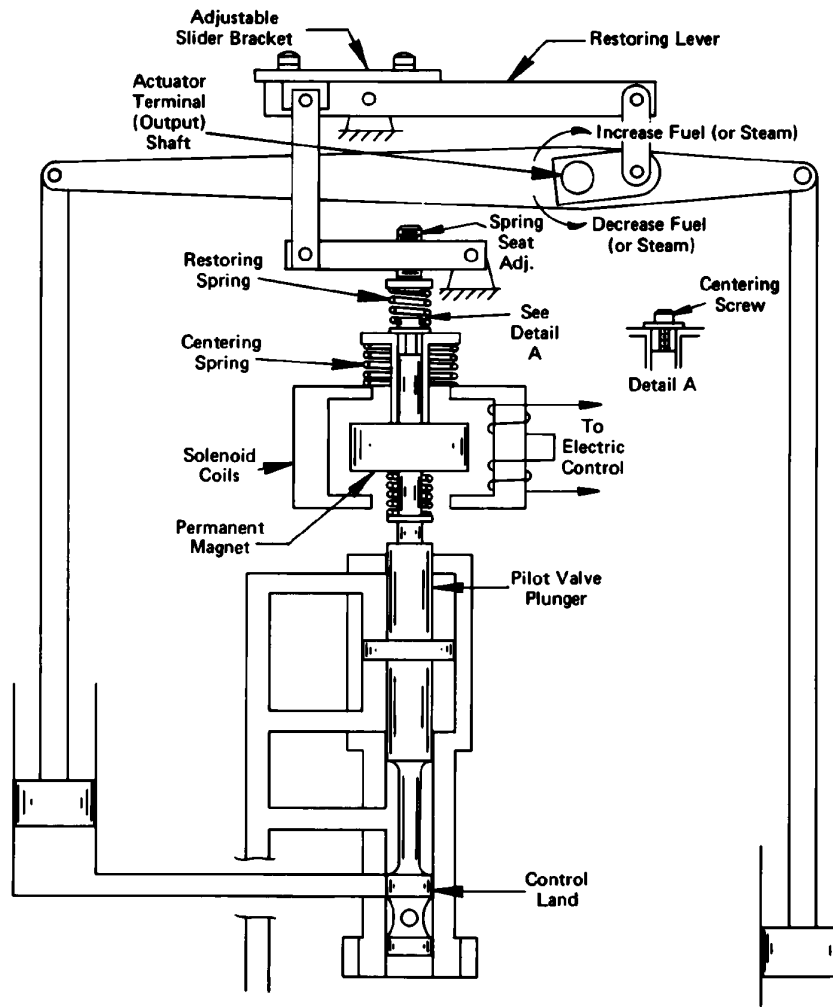

Figure 1-5. Schematic of a Proportional Actuator
2. Insert a 7/64-inch Allen wrench through clearance hole in cover, through hollow center of spring seat adjustment, and engage centering screw (see Figure 1-5).